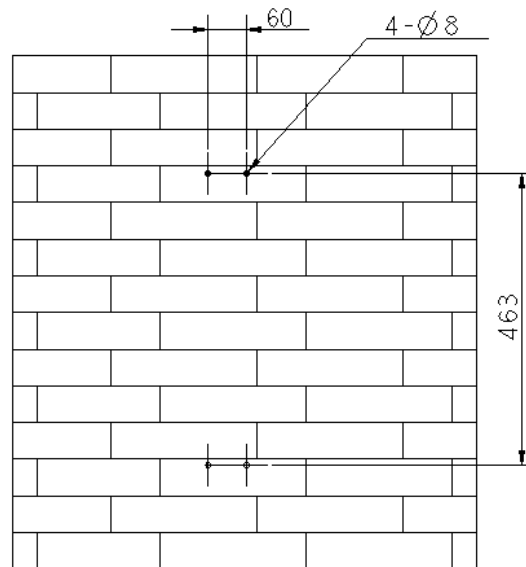

Figure 3-2 AU wall installation drilling dimension
Step 2: Punch four Φ 8 holes in the wall as shown in Figure 3-2 AU wall installation drilling dimension. The hole depth is 50-60mm. Fix the expansion bolt on the wall to ensure the